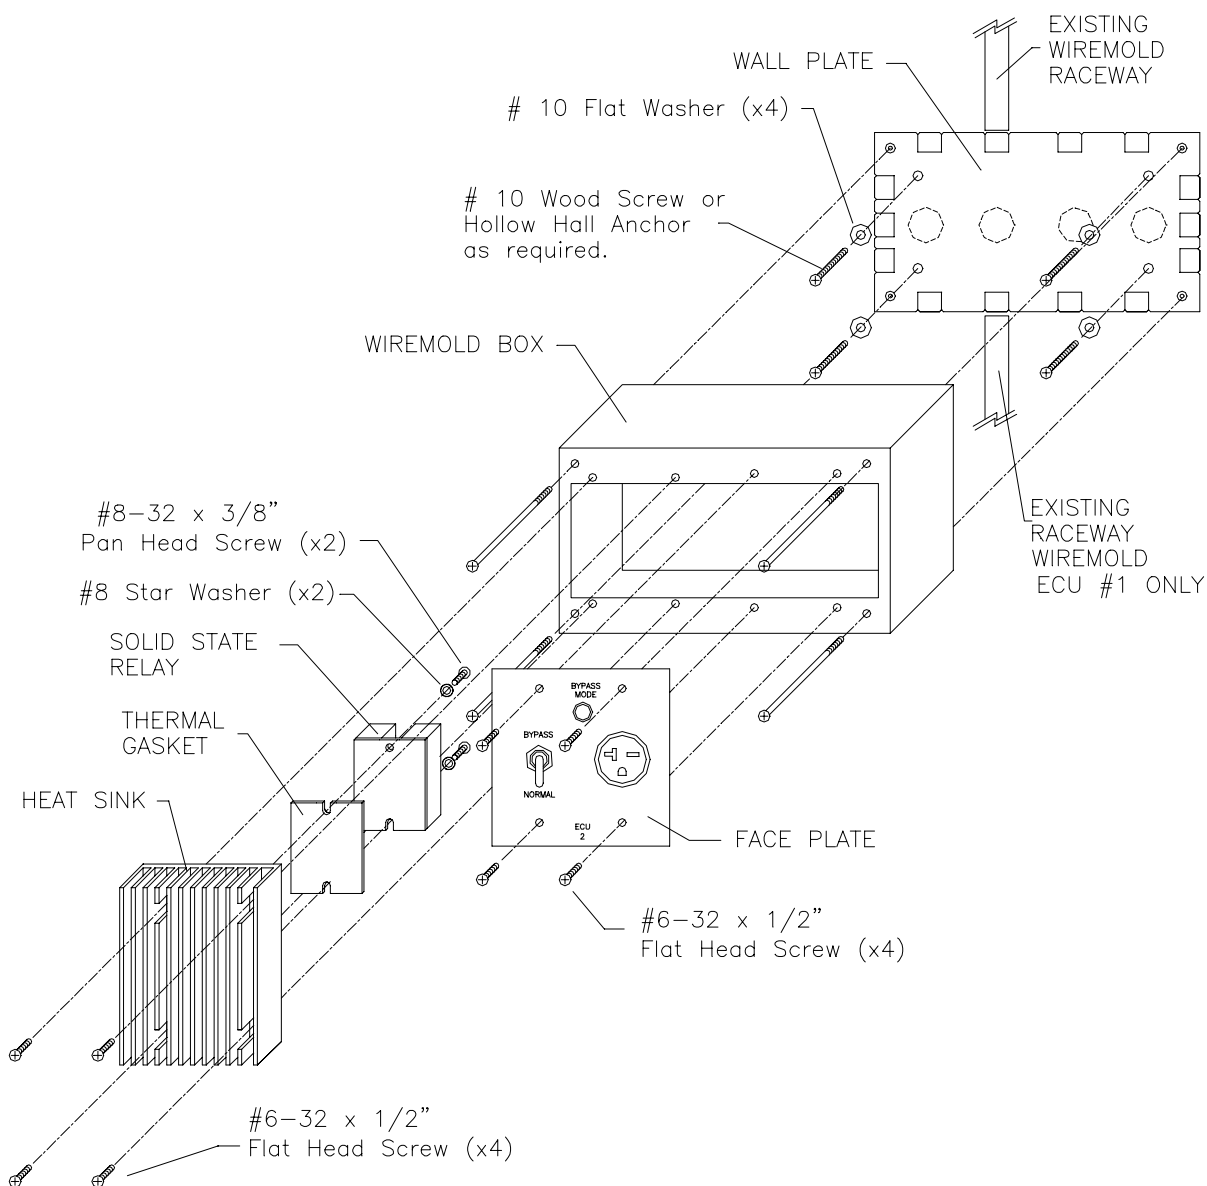

Figure 3-11 Air Conditioner Control Box Mechanical Assembly Diagram
7. Place the thermal gasket (supplied with the replacement relay) on the heatsink surface and attach the new relay to the heatsink as shown in Figure 3-11. Be sure to tighten the relay's mounting screws securely.